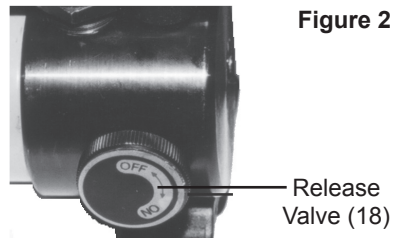

Figure 2
- Turn the Release Valve (18) (see Figure 2) to the "ON" position.